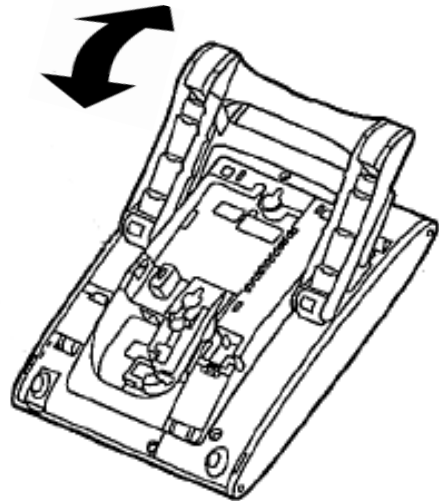

Figure 5-68 Adjust Height of Multline Terminal
5. Snap legs together and adjust to desired height. See Figure 5-68 Adjust Height of Multline Terminal).